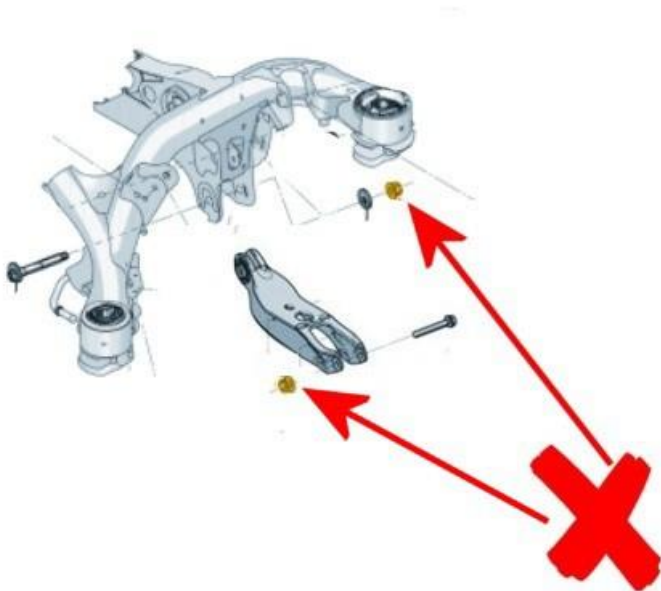

Figure 1
A new specification part (*WHT 010 234*) is now available, the inspection of the original nuts (Figure 1) prior to removal is imperative as this will confirm if any other components require replacement.
NOTE: For photographic purposes Figure 1 shows one side only
- Carry out a visual inspection of the left and right hand rear lower lever inner and outer nuts (x4) as Figure 1 IMPORTANT: Check for fracturing or signs of reduced torque, see the example shown in Figure 2 of a fractured nut